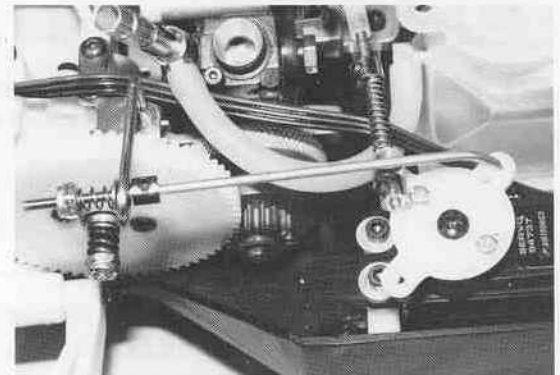

Fig. 296
Step 7 With the transmitter still on, look at your #7559 servo horn adapter. Its neutral position should look like fig. 296. If not, remove the servo horn mounting screw and lift the servo horn assembly and rotate it until you find a spline that will line up according to the photo or as close as possible. You can use your throttle trim knob to make any fine tuning adjustments. You can now tighten the servo horn mounting screw.